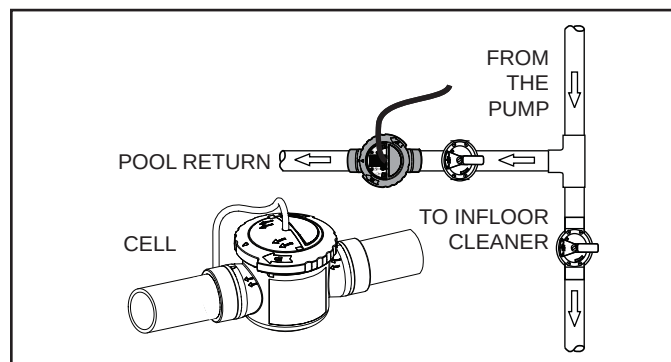

Figure 8. New Pool Plumbing for In-Floor Systems
**NOTE** Do not install the chlorinator on in-floor systems that do not have a dedicated pool return as shown in Figure 8.